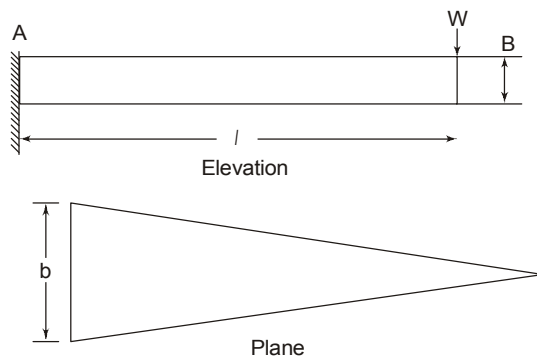

Fig. 2
8. (a) A cantilever of length 'l' and depth 'd' tapers in plan in such a way that the breadth 'b' at the fixed end, decreases to zero at the free end. Determine the deflection at the free end due to load 'W' acting at the free end (Fig.2.)